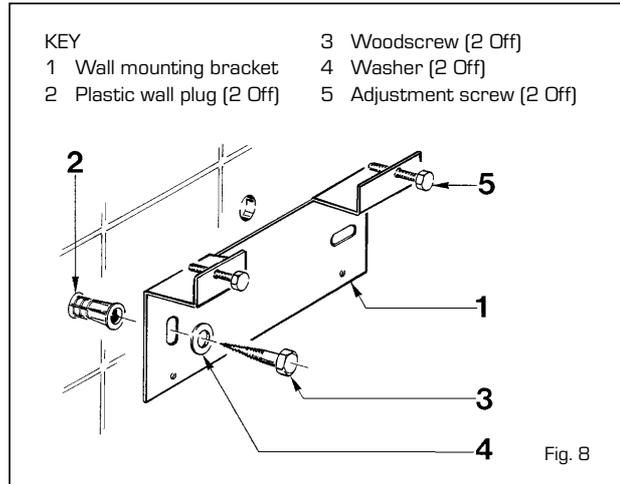

Fig. 8
- Secure the wall mounting bracket in position using the screws provided. Ensure that it is the correct way up, as indicated in fig. 8.